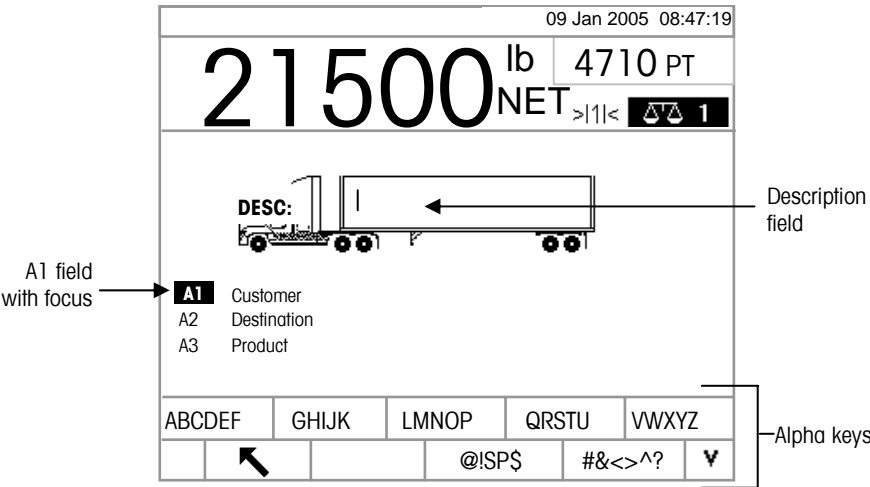

Figure 2-12: Transient Weighing ID Prompt
- 2. A prompt displays with a cursor in the description field. The softkeys and application keys become alpha keys (see Figure 2-12).